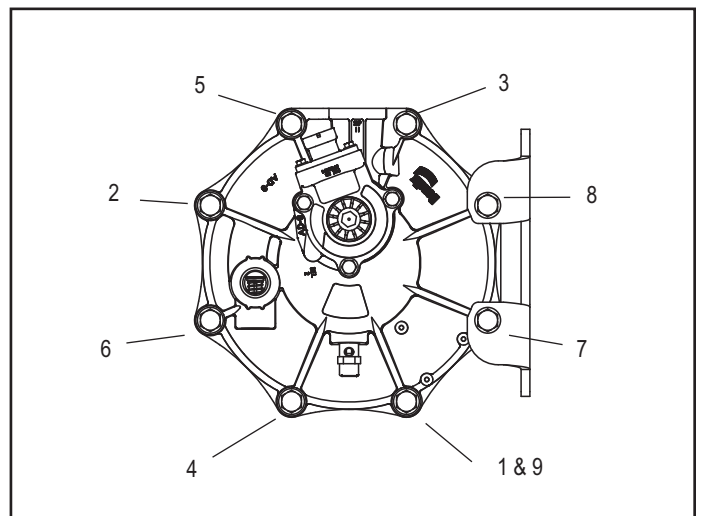

Figure 4 End Cover Bolt Torque Pattern
6. Install the six 3/8" cap screws, locknuts, and twelve washers making certain they are in the proper position as marked during disassembly. The two longer 3/8" cap screws will be used to secure the Bendix® AD-9® air dryer to its mounting bracket. Tighten the six cap screws and locknuts in a star pattern. Torque to 270–385 in-lbs. Note: The two remaining bolt holes in the end cover and two 3/8" cap screws must be the ones marked during disassembly to assure proper orientation of the ports and adequate length of the cap screws. Refer to Figure 4.